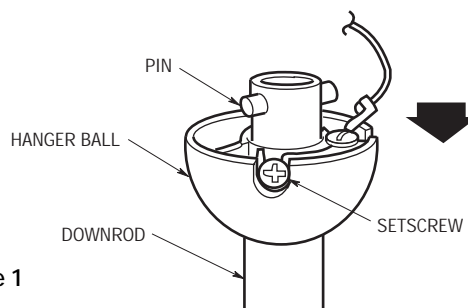

Figure 1
2. Obtain the hanger ball/downrod assembly and remove the hanger ball by loosening the setscrew in the hanger ball until the ball falls freely down the downrod (Figure 1). Remove the pin from the downrod, then remove the hanger ball. Retain the pin and hanger ball for reinstallation in Step 11. Discard the 4-1/2" downrod if using the 18" or optional longer downrod.